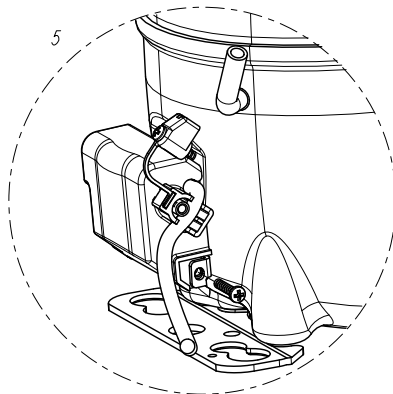
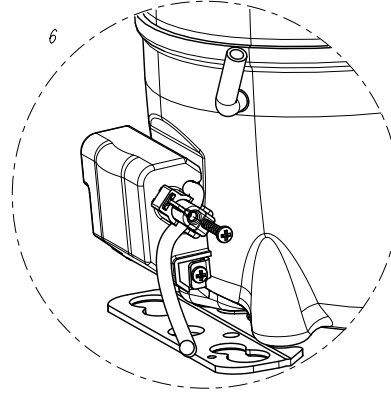

Figure 3.7: Step 5 - Screw the fence cover
Figure 3.8: Step 6 - Screw the cord anchorage
- The screws shown in Figure 3.7 and Figure 3.8 must be fixed with torque of 1.0 Nm (± 0.2).